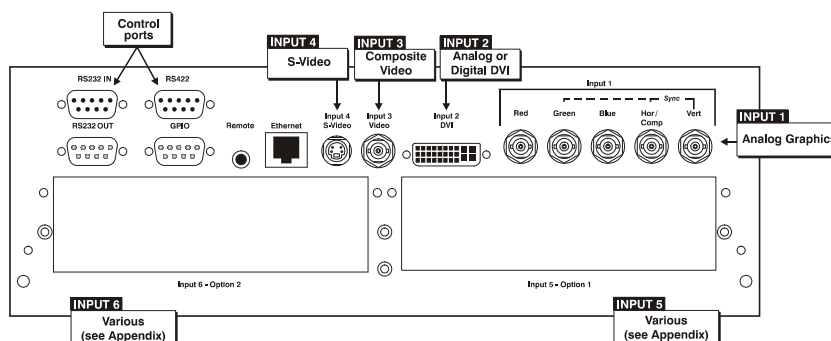

Figure 1.1
- Inputs** ► There are two different types of input face plate configurations (model dependant). See Figure 1.1 & 1.2. These configurations may include the following inputs:
For simplicity, this manual refers to the configuration in Figure 1.1 only.